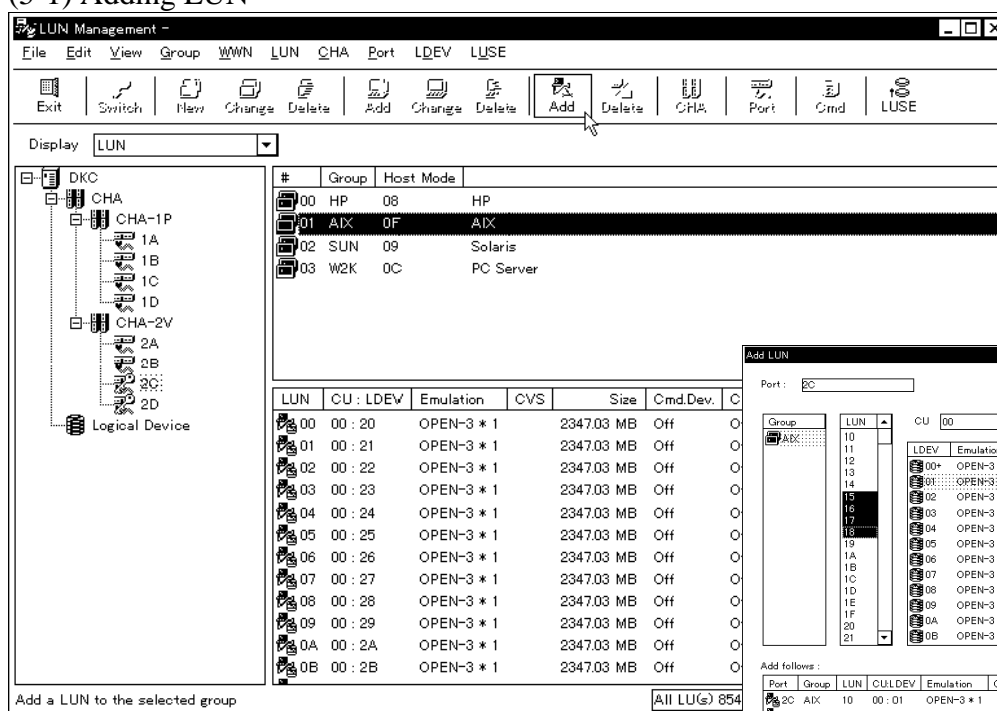

Figure 5.1.1 Main Window
- ① Select (CL) a group from the upper right list.
- ② Select (DR) [Add] from the [LUN] menu in the Main window (Figure 5.1.1).
- ④ Information on the LUN that has been newly registered is reflected in the Main window (Figure 5.1.1).
Details of the Main Window(Figure 5.1.1) and the other windows are shown on the following page.